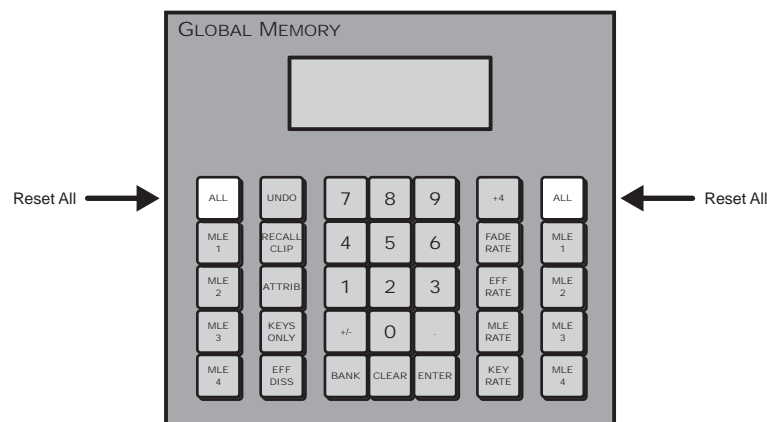

Figure 4.11 Press to Reset All MLEs at Once
- **All MLEs** — To reset all MLEs, press and hold both the **ALL** button in the **Recall** area and the **ALL** button in the **Store** areas (**Figure 4.11**). Only the MLEs assigned to the control panel are reset.